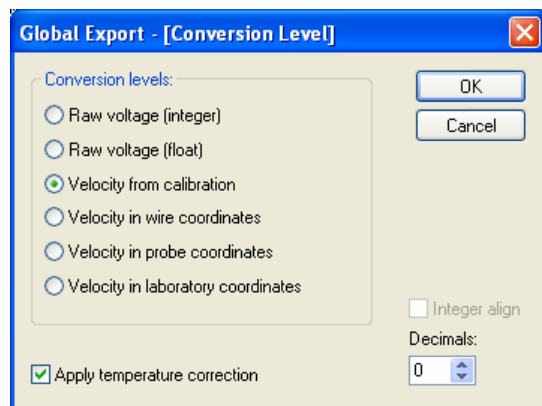

Figure 29: Global export conversion level window
8. Select “Options”. The “Global Export – Conversion Level” window, shown in Figure 29, opens.